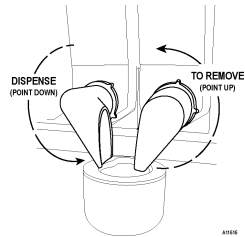

Figure 5b. Product Chute
2. Prior to removing an ingredient canister, rotate the delivery chute in an upward direction to prevent spillage of product onto internal surfaces. See Figure 5b.
13. Rotate the product chute so that it points down (dispense position) to the whipper bowl. See **Figure 5b**.